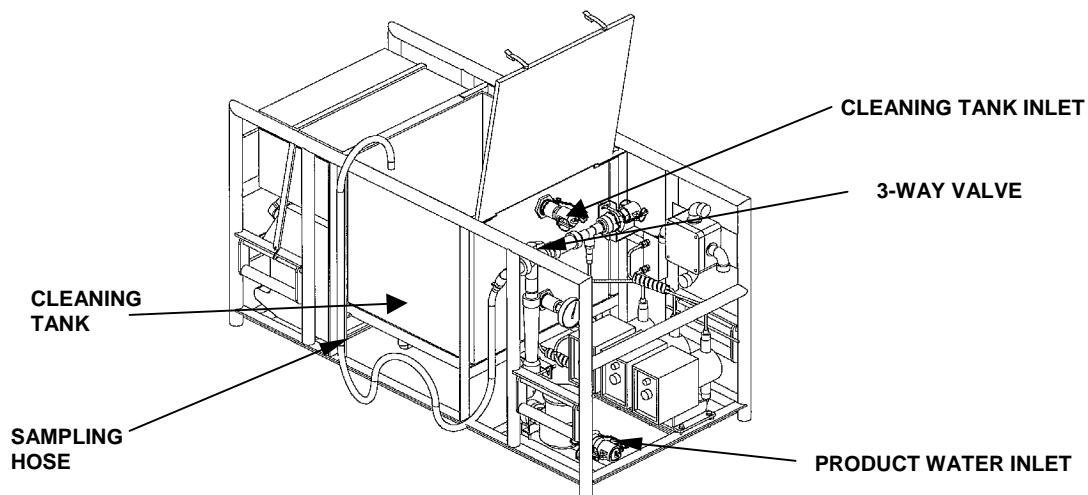

Figure 1. Filling Cleaning Tank.
1. Release the two latches on cleaning tank. Lift up cover. Use gray sampling hose to fill the cleaning tank to the bottom of the cleaning tank inlet. Open 3-way Valve to fill. See Figure 1.